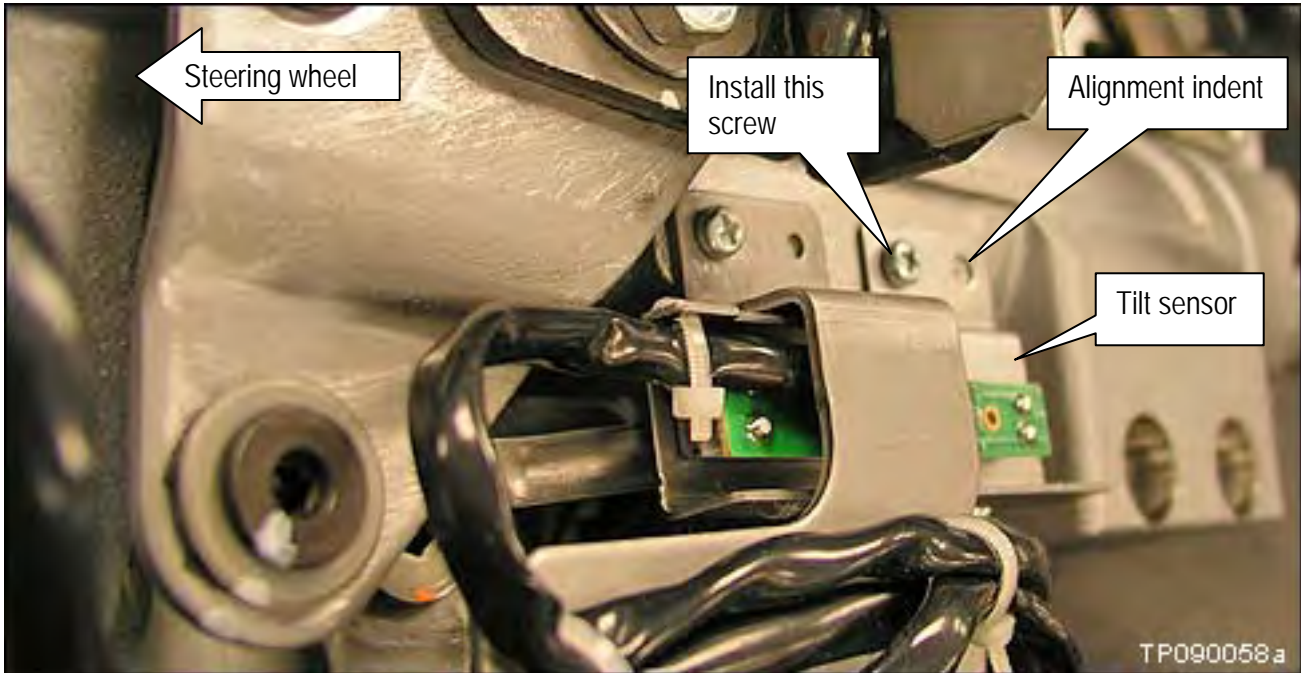

Figure 34
26. Install the Phillips head screw for the tilt sensor (see Figures 34 and 34a).